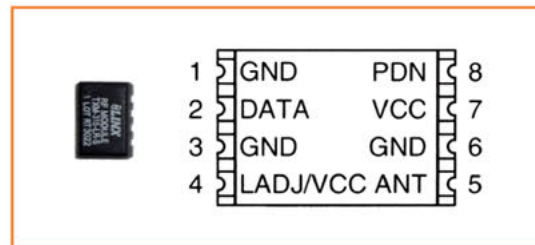

Figure 1. The Linx TX Module with its pinout from the datasheet. There's just a few connections needed to get this module to work.
**Figure 1** shows the transmitter module and its pin assignments, as shown in the part's data-sheet (available from [1]). **Figure 2** is a mimic of the previous, but now depicting the receiver module. There are few active pins. The receiver has more pins, though most are not connected